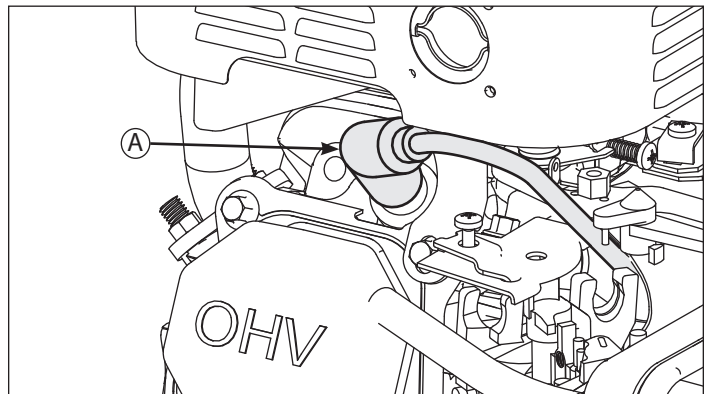

FIGURE 12
1. Disconnect the spark plug wire and secure it away from the spark plug. SEE FIGURE 12 (on page 16)
1. Disconnect the spark plug wire and secure it away from the spark plug. **SEE FIGURE 12**
2. Disconnect the spark plug wire and secure it away from the spark plug. **SEE FIGURE 12**
2. Disconnect the spark plug wire and secure it away from the spark plug. **SEE FIGURE 12** (page 16)